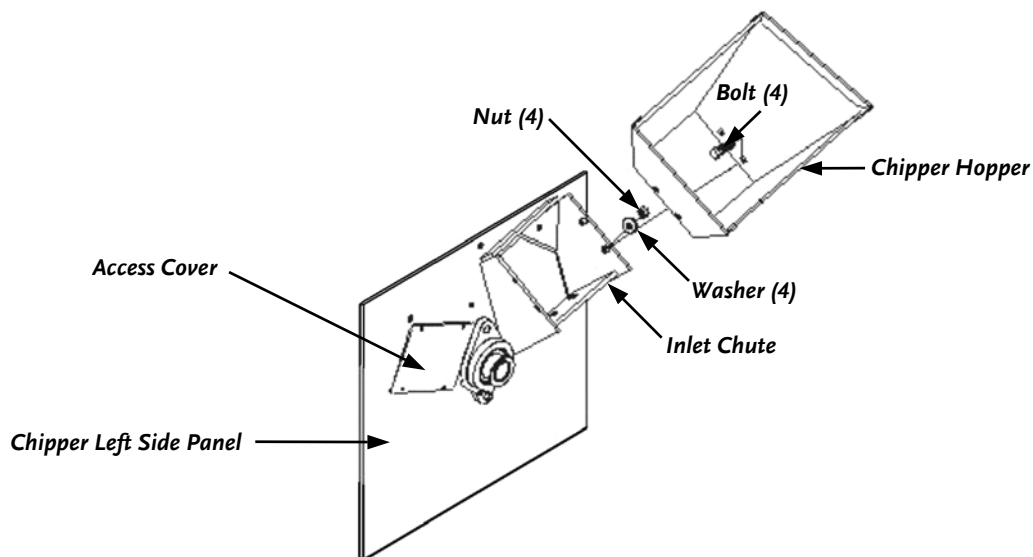

Figure 1
NOTE: Be sure to insert the Bolts from the inside of the Chipper Hopper so that the threads are sticking out (Figure 1).
2. Install a Flat Washer, then a Lock Nut on each bolt. Initially install the Bolts and Nuts finger tight and then tighten the Nuts one (1) turn using two (2) 1/2" wrenches (Figure 1). Check to see that the Hopper is centered on the Inlet Chute and then tighten the Nuts securely.